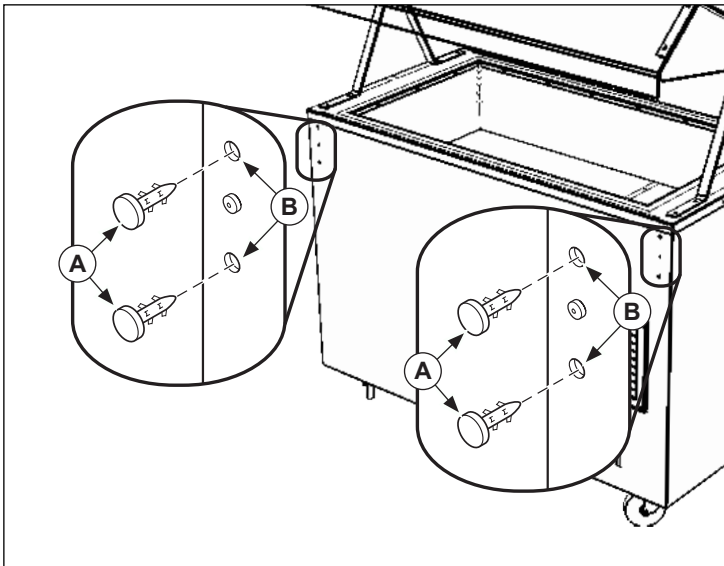

Figure 1. Plug Removal
1. Remove the plugs (A) from the holes (B) in the unit. See Figure 1.
2. Install the screw (A), lockwasher (C) and flat washer (D). See Figure 1. Repeat on the other holes as necessary.